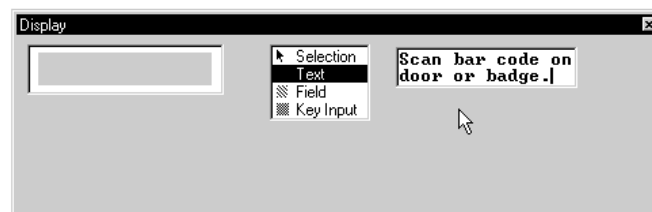

Figure 4-75 “Instruct4” Handler Message
48. At the **Display** window, type **Scan bar code on** on the top line, and type **door or badge.** on the second line (Figure 4-75).